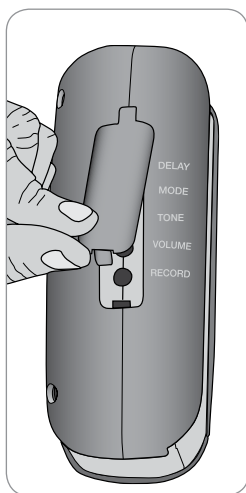

Fig. 12
1. Lift the programming control protective cover (fig. 12).